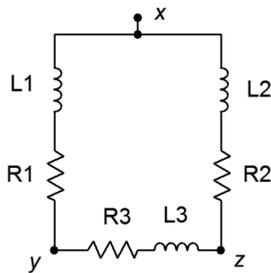

Figure 5.27
53. Determine the equivalent Y (T) network for the circuit of Figure 5.27.  $R_1 = R_2 = R_3 = 10\text{ k}\Omega$  and  $X_{L1} = X_{L2} = X_{L3} = j10\text{ k}\Omega$ .